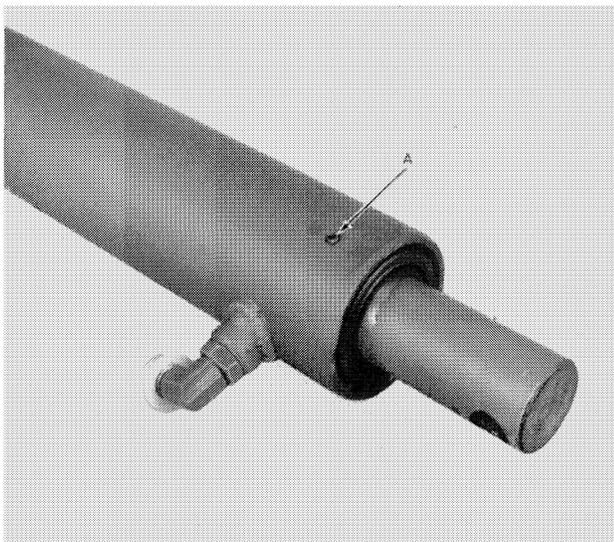
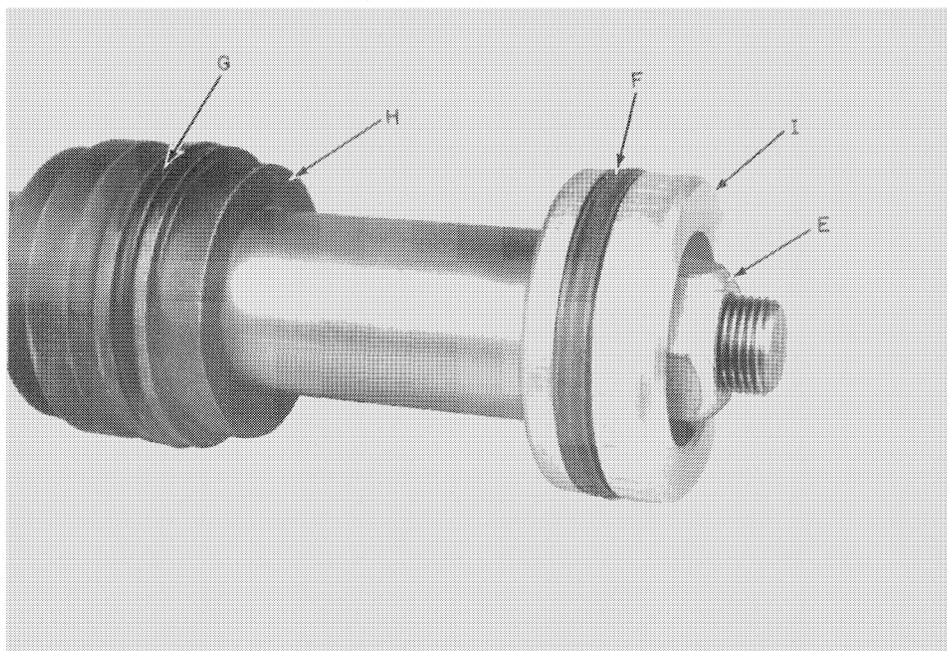

FIGURE 38
FIGURE 41
1. Remove set screw, A, Figure 38.
4. Remove rod nut, E, Figure 41, and remove piston, I, and cylinder head, H.
3. Install piston, I, Figure 41, and lock nut, E. Tighten lock nut to 155 ft. lbs. (210 N·m) torque.
4. Install O-ring, G, and seal, F, Figure 41.
6. Install set screw, A, Figure 38, aligning it with groove in cylinder head, H, Figure 41.